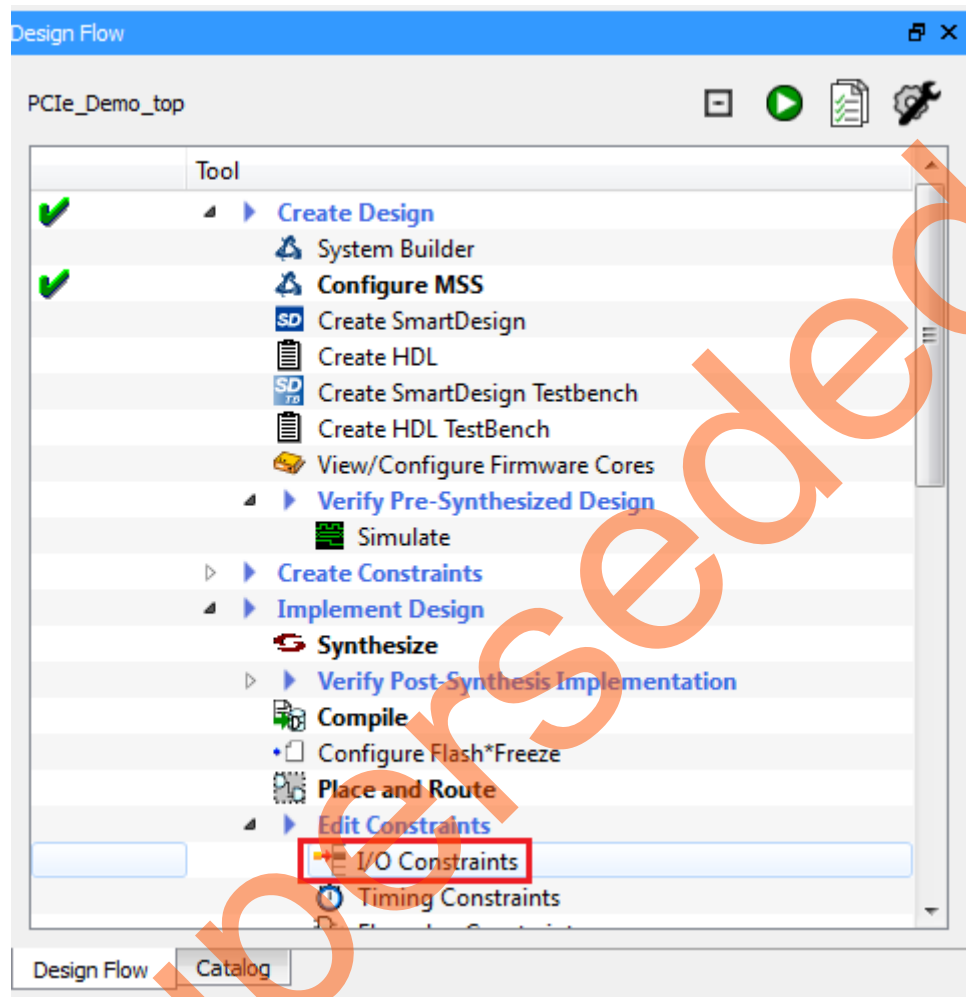

Figure 55 • I/O Constraints
1. Double-click **I/O Constraints** in the **Design Flow** window as shown in Figure 55. The **I/O Editor** window is displayed after completing Synthesize and Compile.